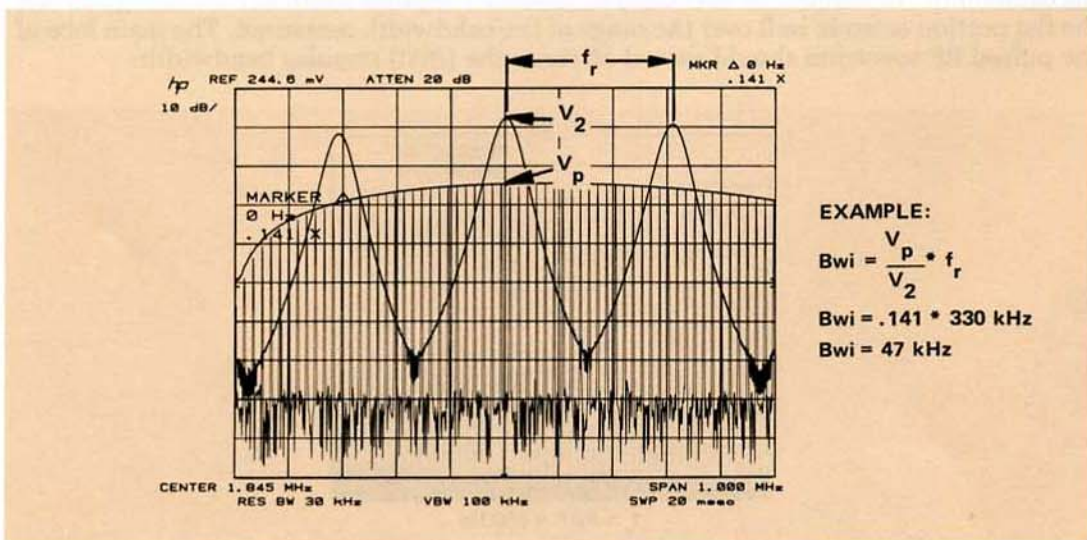

Figure A-5. Measuring Impulse Bandwidth
Knowing this relationship, the  $BW_i$  for a resolution bandwidth filter can be measured. The procedure below measures the ratio of the amplitude of  $V_p$  to  $V_2$  and measures the pulse rate ( $f_r$ ). Equation (6) is then used to calculate  $BW_i$ . See Figure A-5.
**NOTE:** The spectrum analyzer display should look similar to that shown in Figure A-5. Repeat steps 1 through 4 if the display is different.
12. The MARKER  $\Delta$  reading is the ratio of  $V_p$  to  $V_2$ . The PRF set in step 5 is used to calculate BWi using equation (6):